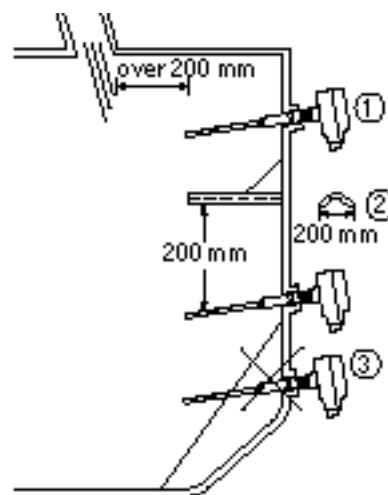

Fig. 6
When material to be measured is supplied at an inlet, measuring electrode should be installed apart from the inlet at least 200 mm. Refer ① of Figure 6.
Particularly, when installing at the lower limit, it should be installed considering the allowable load of electrode(3.1 kgf/m). It has protection effect from the impact of free fall of incoming material when a protection plate is installed above the level switch in the vessel as shown in ② of Figure 6. Refer ② of Figure 6.
Since build-up of powder or granules can be occurred on the inclined plate between vessel wall and bottom of vessel, level switch should not be installed at such places. Refer ③ of Figure 6.